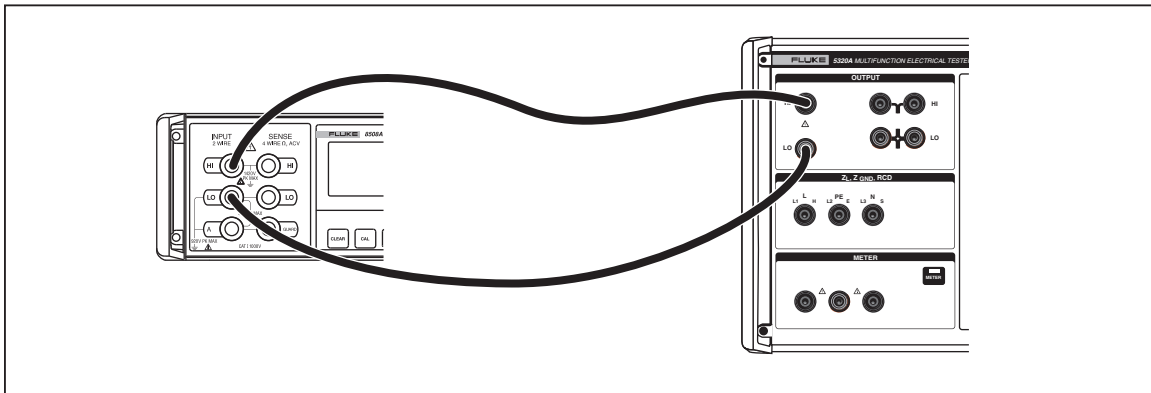

Figure 3-26. High Resistance Source (<10 MΩ) Calibration Connections
1. Connect the high resistance source output to a standard megaohmmeter’s input terminals as shown in Figure 3-26. Setup the appropriate megaohmmeter parameters to meet its best accuracy. Do not exceed the maximum permitted test voltage.